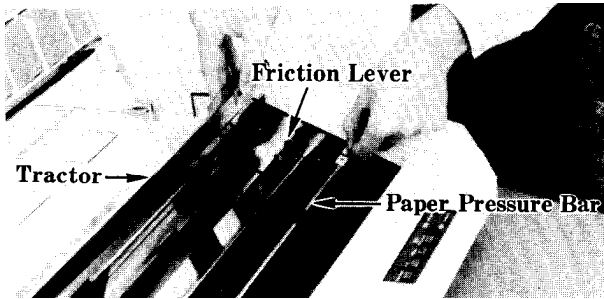

Fig. 9
1. Pull the paper pressure bar forward and make sure that the friction lever is also in the forward position marked "PIN FEED". (Fig. 9)